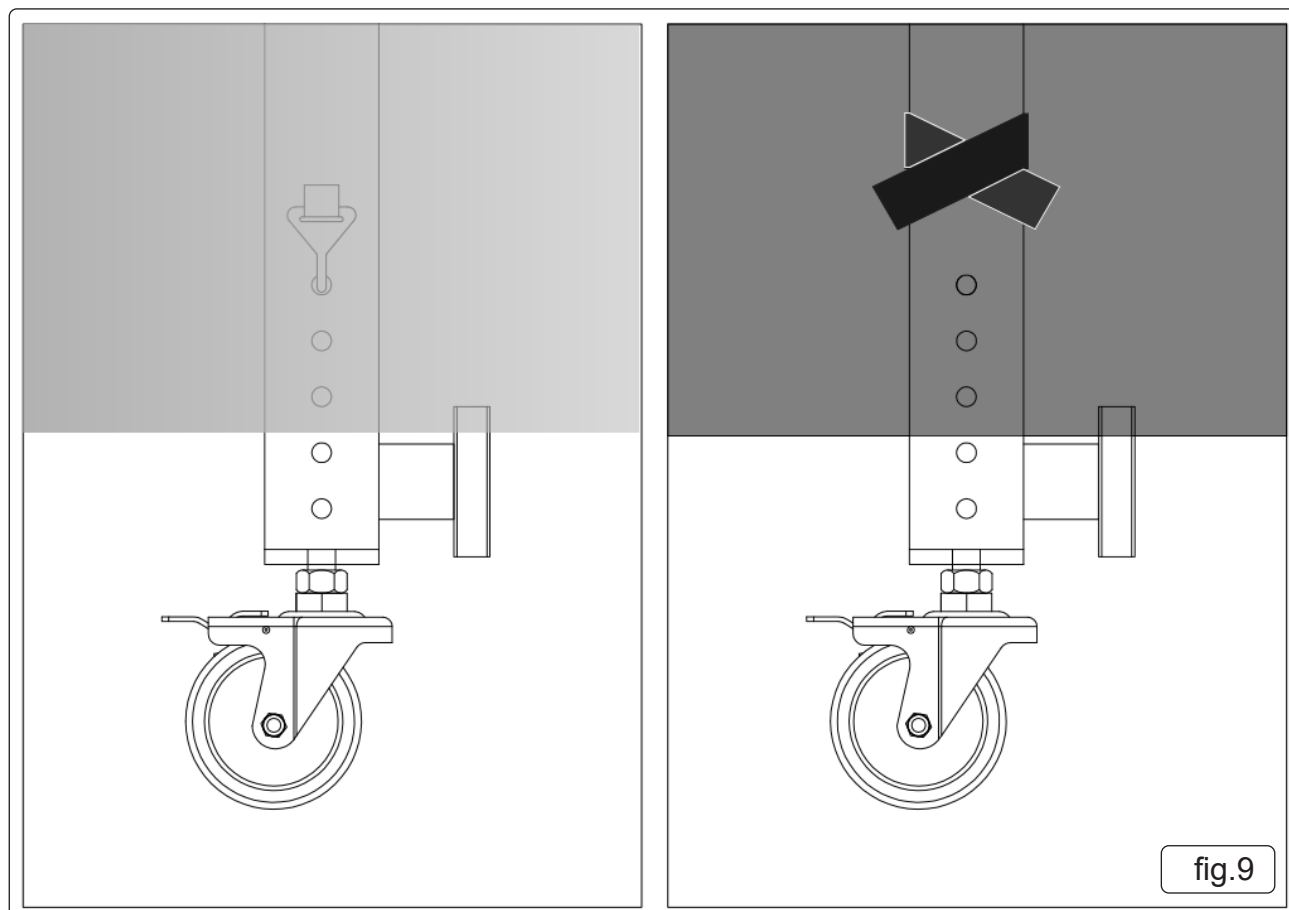

fig.9
- 5.8.3. Pull the cover tight onto the frame. Use the 'hook and loop tape' straps sewn on the cover to secure it (fig.9).